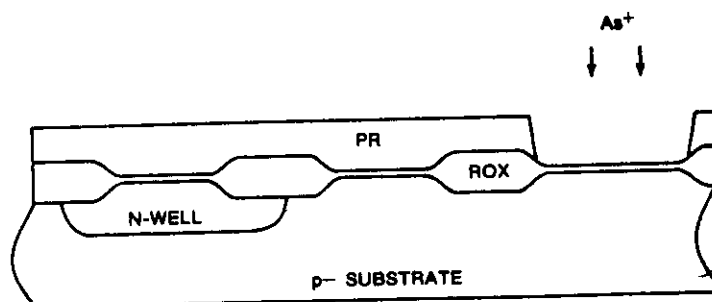

Figure 6. Depletion mode device channel tailoring.
4. *Depletion Mode Device Channel Tailoring and Buried Contact Openings.* As discussed in Chapter 1, the channel of a depletion mode device is formed by a shallow n-type layer underneath the gate. As shown in Figure 6 the depletion mask generates a PR pattern with openings over the areas where the devices are to be formed. A subsequent As^+ (arsenic) ion implant drives the threshold voltage of these regions to the required below zero level.